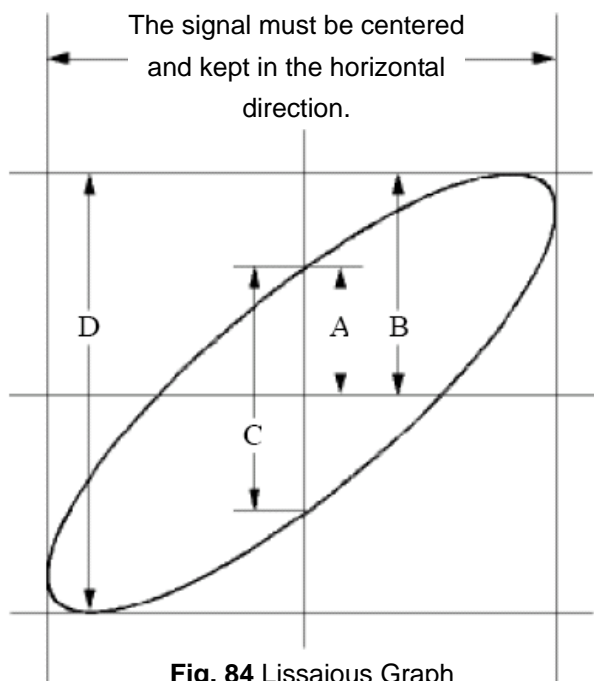

Fig. 84 Lissajous Graph
8. With the elliptical oscillogram method adopted, observe and calculate the phase difference (see **Fig. 84**).